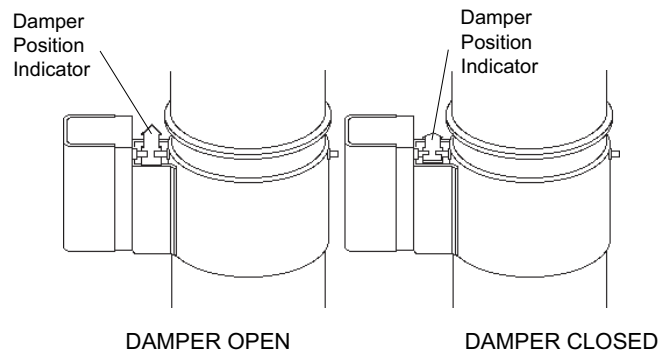

Fig. 18: Vent Damper position Indicator Showing Open & Closed Positions
1. When the heater is off, check that the vent damper position indicator points to the closed position, Fig. 18.
2. Turn the thermostat or controller up to call for heat and check that the vent damper indicator points to the open position, Fig. 18.